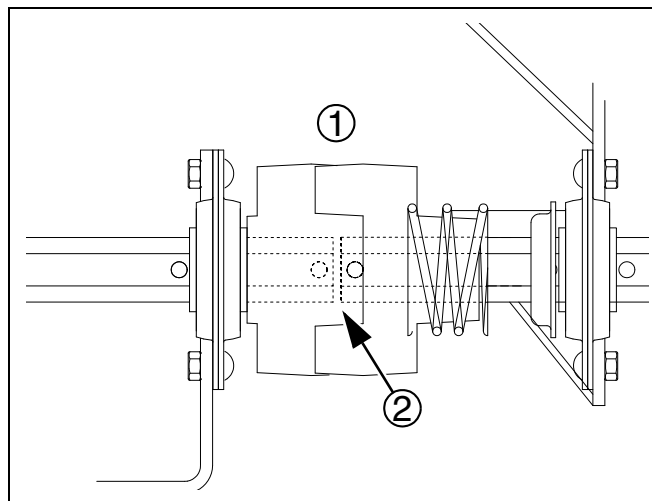
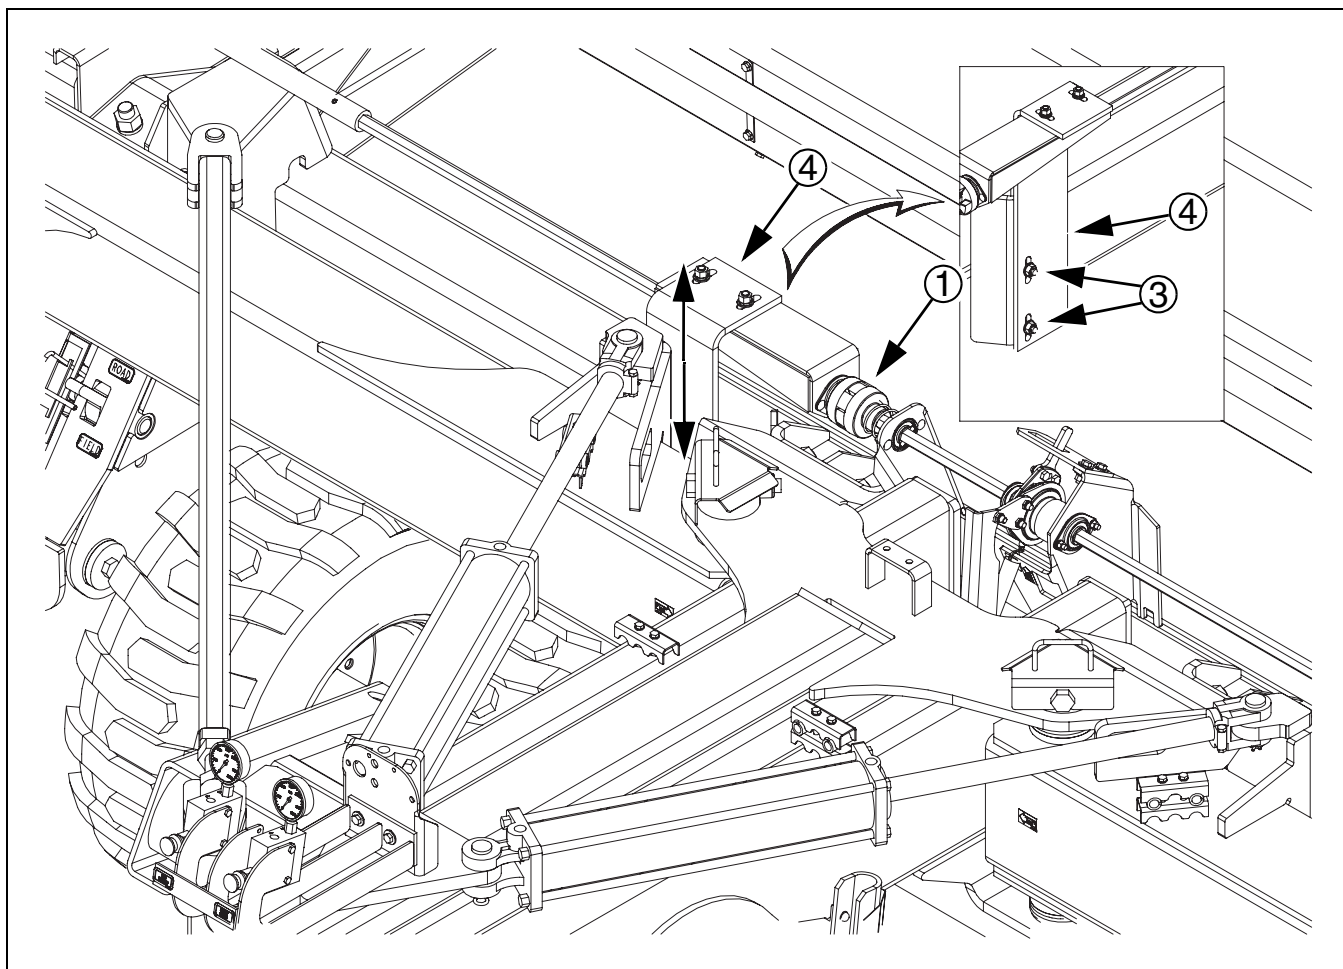

Figure 40
Figure 41
**Refer to Figure 40 and Figure 41**